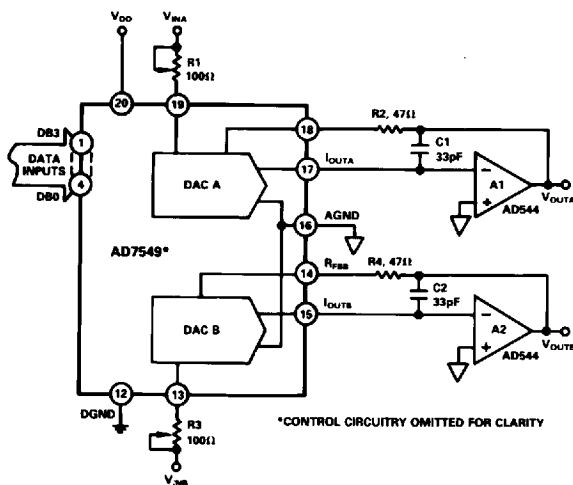
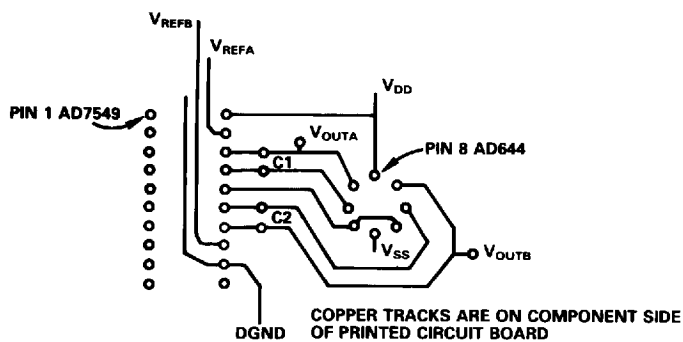

Figure 2. AD7549 Unipolar Binary Operation
Figure 4. Suggested Layout for AD7549 with AD644 (Dual Op Amp)
Figure 2 shows the circuit diagram for unipolar binary operation. With an ac input, the circuit performs 2-quadrant multiplication. The code table for Figure 2 is given in Table II.
Table II. Unipolar Binary Code Table for Circuit of Figure 2
**Output Offset:** CMOS D/A converters in circuits such as Figures 2 and 3 exhibit a code dependent output resistance which in turn can cause a code dependent error voltage at the output of the amplifier. The maximum amplitude of this offset, which adds to the D/A converter nonlinearity, depends on  $V_{OS}$  where  $V_{OS}$  is the amplifier input offset voltage. To maintain monotonic operation, it is recommended that  $V_{OS}$  be no greater than  $(25 \times 10^{-6})(V_{REF})$  over the temperature range of operation. Suitable op amps are AD644L, AD517L and AD544L. The AD517L is best suited for fixed reference applications with low bandwidth requirements: it has extremely low offset ( $50\mu V$ ) and in most applications will not require an offset trim. The AD544L has a much wider bandwidth and higher slew rate and is recommended for multiplying and other applications requiring fast settling. An offset trim on the AD544L may be necessary in some circuits.
**Feedthrough:** The dynamic performance of the AD7549 depends upon the gain and phase stability of the output amplifier, together with the optimum choice of PC board layout and decoupling components. A suggested printed circuit layout for Figure 2 is shown in Figure 4 which minimizes feedthrough from  $V_{REFA}$ ,  $V_{REFB}$  to the output in multiplying applications.